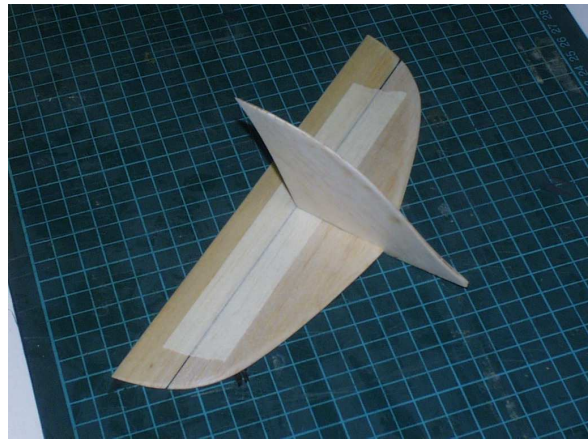

Figure 5.6: Test fitting the tail
- Sand down the horizontal and vertical stab to a smooth profile and test fit. (Figure 5.6 on the following page)